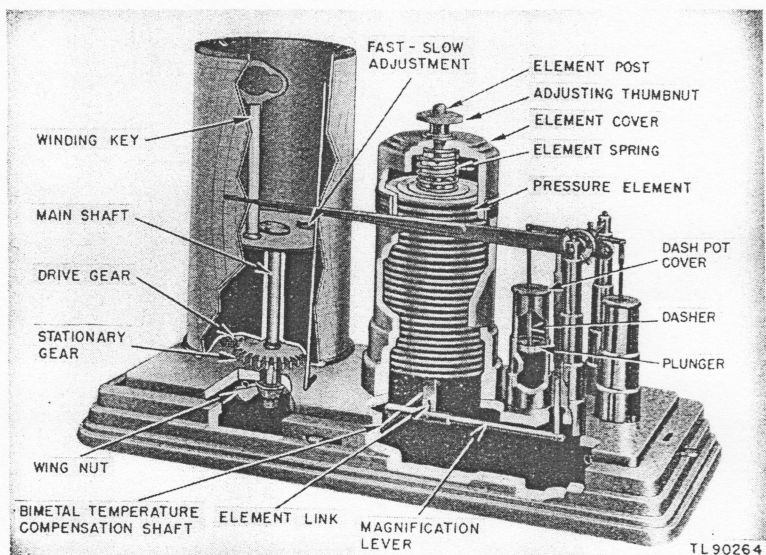

Figure 3. Barograph ML-3-(*), exposed view of mechanism.
(1) One end of the element link (fig. 3) is attached to the stud at the bottom of the pressure-sensitive unit. The other end is fitted into a slot in the magnification lever (fig. 3) which extends horizontally below
(3) The vertical link (fig. 3) extends vertically through the small hole. The lower end of the vertical link is attached to the end of the magnification lever, and the upper end is attached about midway on one side of the calibration lever.
(a) Each dash pot (fig. 3) consist of a cylinder with a removable cover, a piston, and a connecting rod.
5. CLOCK ML-145 (fig. 3). **a.** Clock ML-145 consists of—
- (1) A clock movement housed in a high cylinder.
- (2) A chart clip.
- (3) A main shaft and stationary gear, with wing nut.
- (4) A winding key.
d. The main shaft and gear fit into the hole provided in the base of the instrument case. The wing nut (figs. 3 and 4) screws on the threaded end of the main shaft to hold the gear stationary on top of the base.